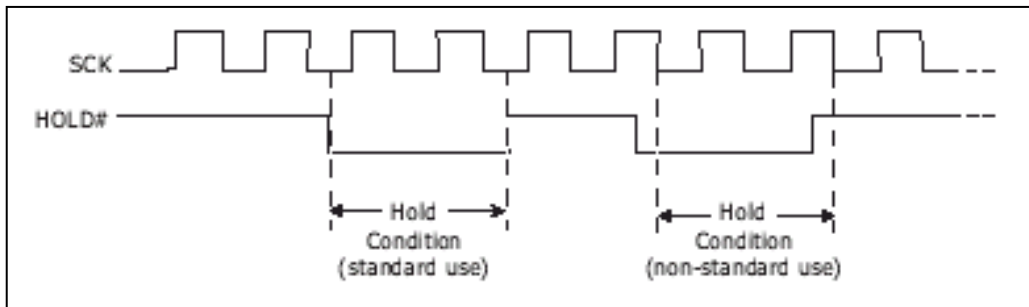

Figure 3 Hold Condition Activation
To enter the Hold condition, the device must be selected, with Chip Select (CS#) Low. The Hold condition starts on the falling edge of the Hold (HOLD#) signal, provided that this coincides with Serial Clock (SCK) being Low (as shown in Figure 3).
The Hold condition ends on the rising edge of the Hold (HOLD#) signal, provided that this coincides with Serial Clock (SCK) being Low. If the falling edge does not coincide with Serial Clock (SCK) being Low, the Hold condition starts after Serial Clock (SCK) next goes Low. Similarly, if the rising edge does not coincide with Serial Clock (SCK) being Low, the Hold condition ends after Serial Clock (SCK) next goes Low (Figure 3). During the Hold condition, the Serial Data Output (SO) is high impedance, and Serial Data Input (SI) and Serial Clock (SCK) are Don't Care.